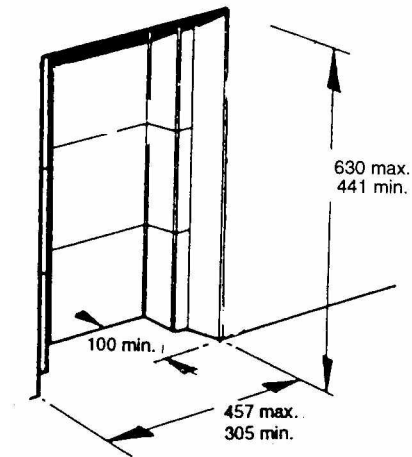

Fig. 5
2.3 PRE-CAST FLUE OF MINIMUM CROSS SECTION (Fig. 5)